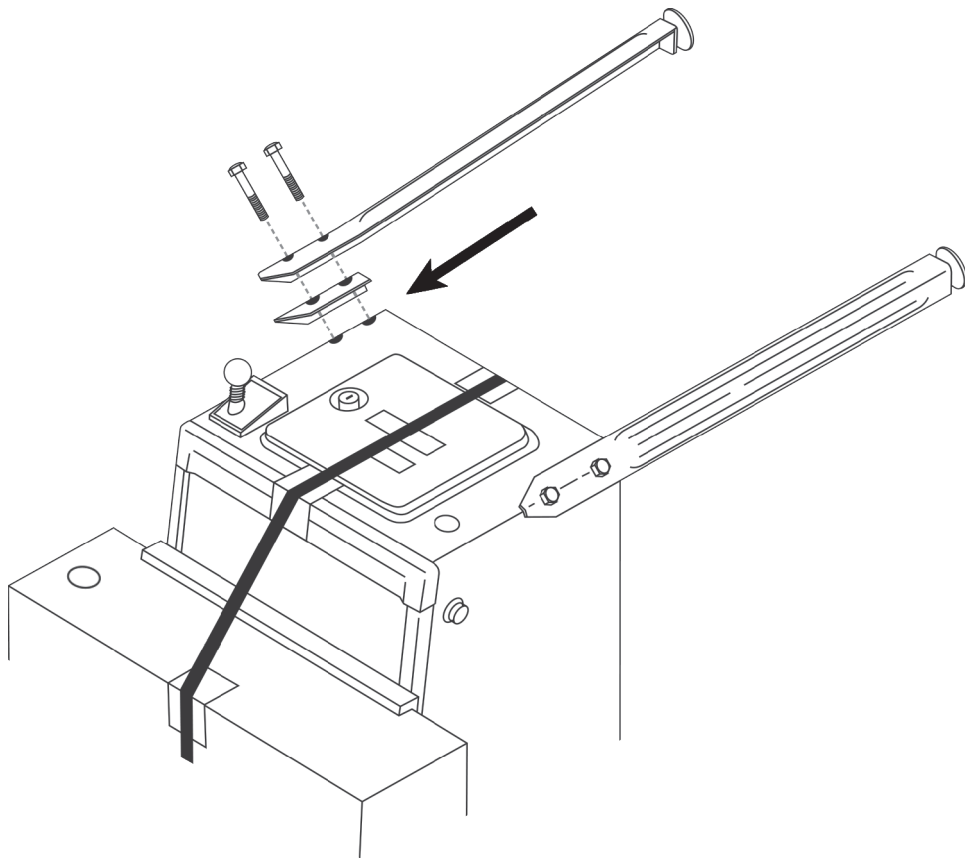

Fig. 4 Installing the front legs and cabinet protectors
5. Locate the four felt cabinet protectors and leg bolts from the loose parts (Fig. 4).
- b. Thread both leg bolts on each leg to secure it to the cabinet (Fig. 4)